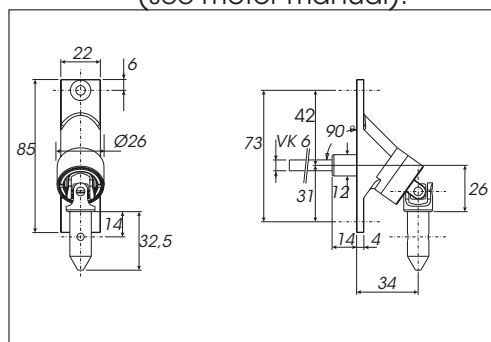

Fig. 10a : Cardan joint 90°
- See Figure 10a + 10b for the cardan joint sizes